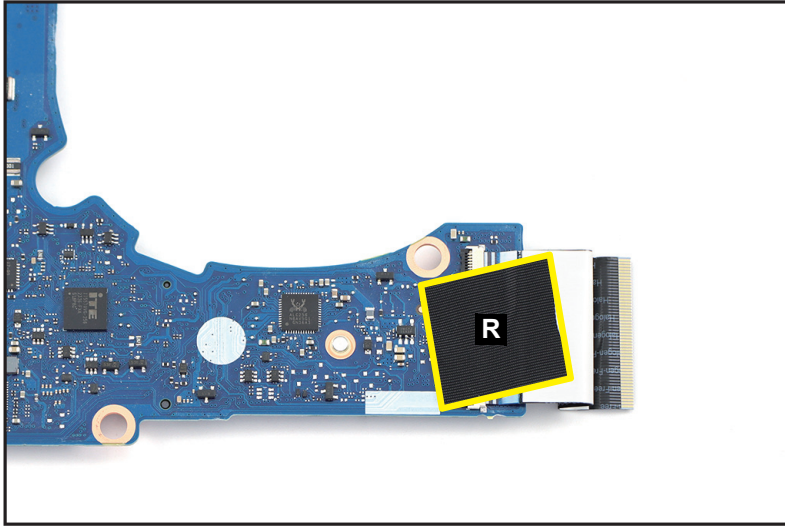

Figure 1-50. Mainboard Removal
16. Flip the mainboard. Then detach the tape (R) securing the LTE board FFC connection (Figure 1-50).